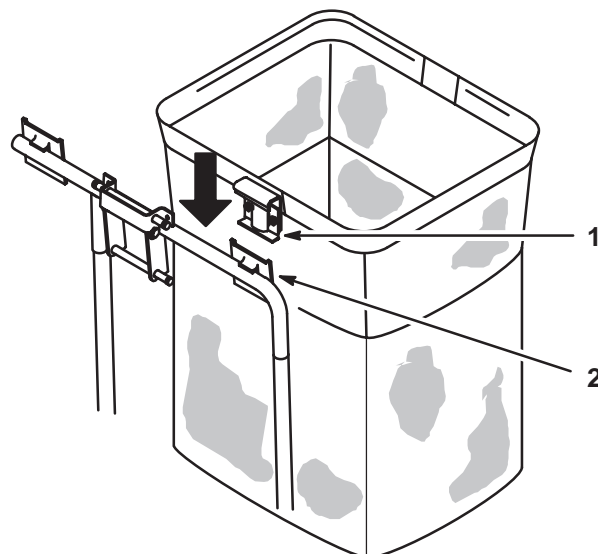

Figure 27
- Install the bags by sliding the bag frame hooks onto the retaining brackets (Fig. 27).